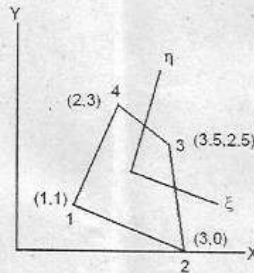

Fig. 15 (b)
- (b) (i) Why do we use natural coordinates? Differentiate between subparametric, isoparametric and superparametric elements. (5)
(ii) For the four noded element shown in Fig. 15(b) determine the Jacobian and evaluate its value at the point (1/3, 1/3). (8)